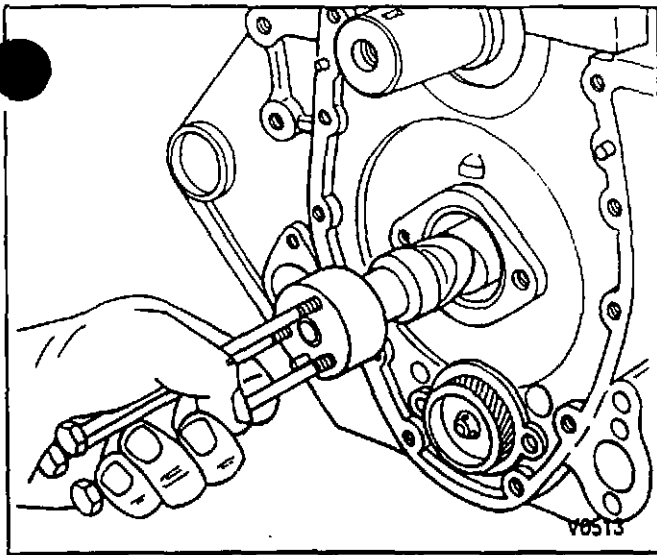

Figure 12—Removing the Camshaft
- A. Install three 5/16-18 inch bolts 100-125 mm (4-5 inches) long into the camshafts threaded holes. Use these bolts to handle the camshaft (figure 12).